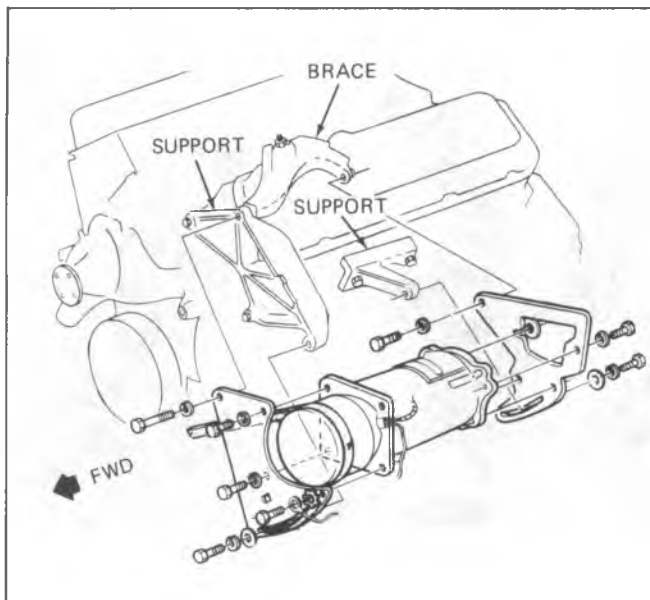

Fig. 6A5-10--A/C Compressor Mounting
5. If the vehicle is equipped with air conditioning, remove the A/C compressor upper brace (fig. 6A5-10).